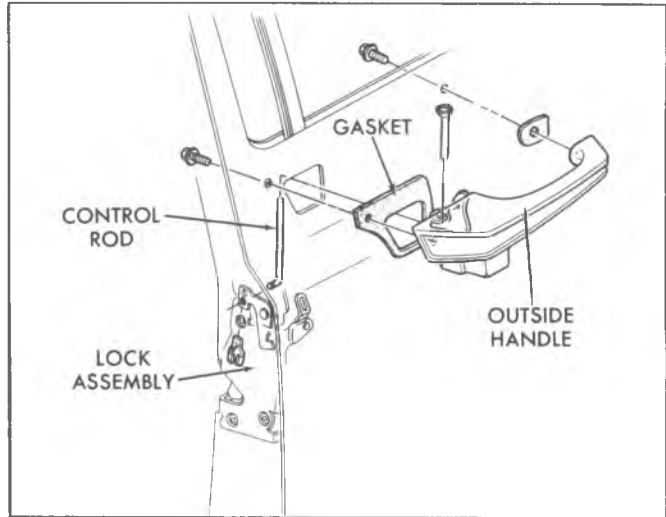

Fig. 43—Outside Handle
**Outside Handle—Fig. 43**
2. Disengage outside handle control rod from lock assembly by removing clip, as shown in figure 43.